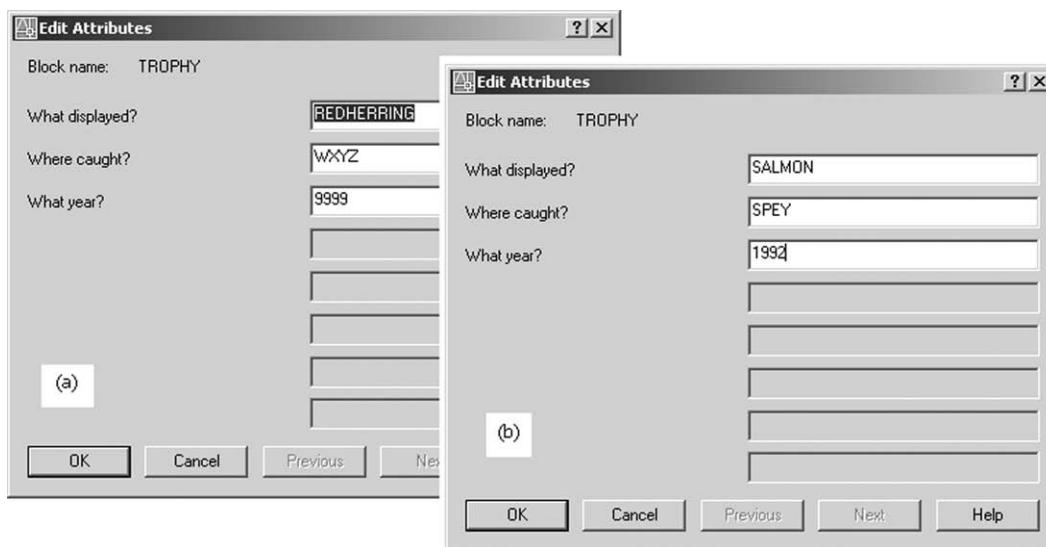

Figure 28.10 The Edit Attributes dialogue box for TROPHY.
with Prompts and default values from the attribute definition sequence as Figure 28.10(a)
d) dialogue box as Figure 28.10(b)